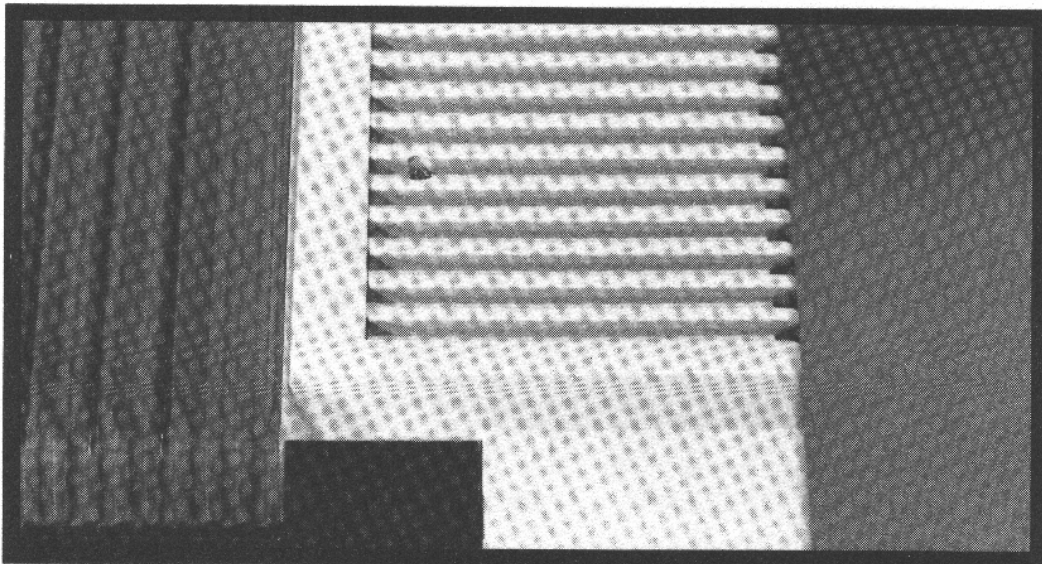

FIGURE 13.5. Location of vent cover and screw holding it in place
The DIP switches in the FX Series are simple to access. The switches are under the vent cover which is located in the upper right-hand corner, above the control board. Figure 13.5 indicates the location of the vent cover. The following steps should be undertaken to access the DIP switches:
- Step 1.** Remove the screw holding the vent cover in place. The position of the screw is indicated in figure 13.5. The screw will require a Phillips screw driver.